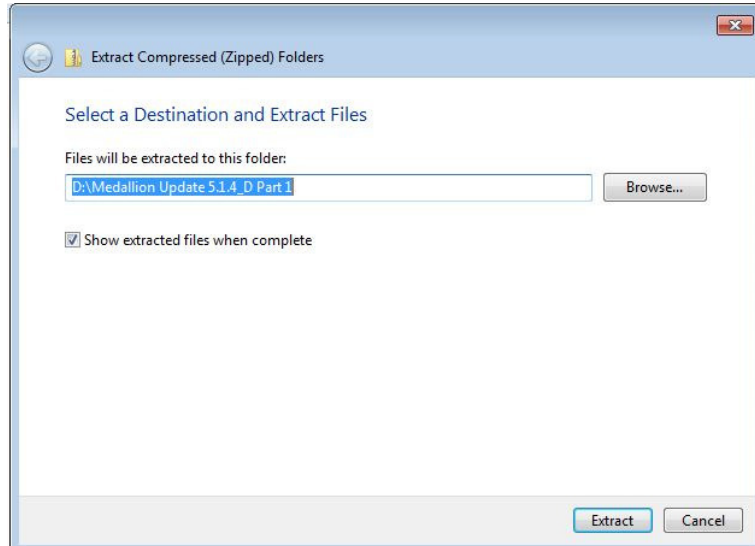

Fig. 8, Extracting Compressed (Zipped) Folders
8. In the next screen, allow the default location that appears (it should be the same as the zip folder location). Select the box labeled "Show extracted files when complete," then select "Extract." See Fig. 8. The files will be unzipped. This process usually takes less than two minutes.